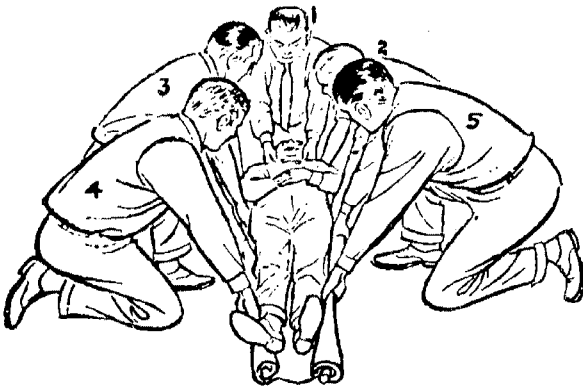

Fig. 35—Blanket Fits Contour of Body
Step 7. Nos. 2 and 3 (on opposite sides) grasp the blanket with the top hands at the victim's shoulder and the bottom hands at his lower back. Nos. 4 and 5 grasp blanket with top hands at his hips and lower hands at his legs (below knees). No. 1 remains at his head, holding slight traction. (See Fig. 35.)